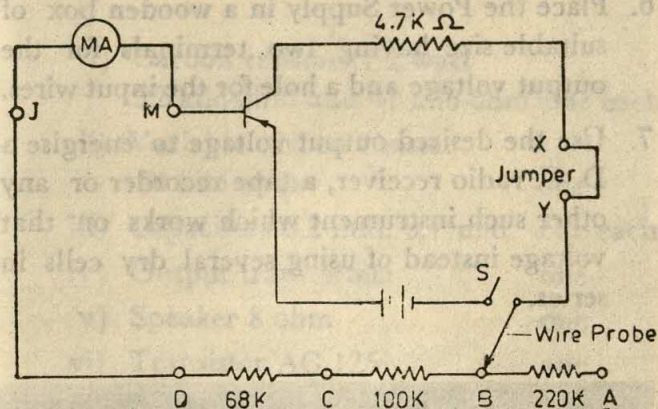

FIG. 3.6.2
3. Wire the circuit as given below. Check the positions of the leads of the transistor. Fig 3.6.2